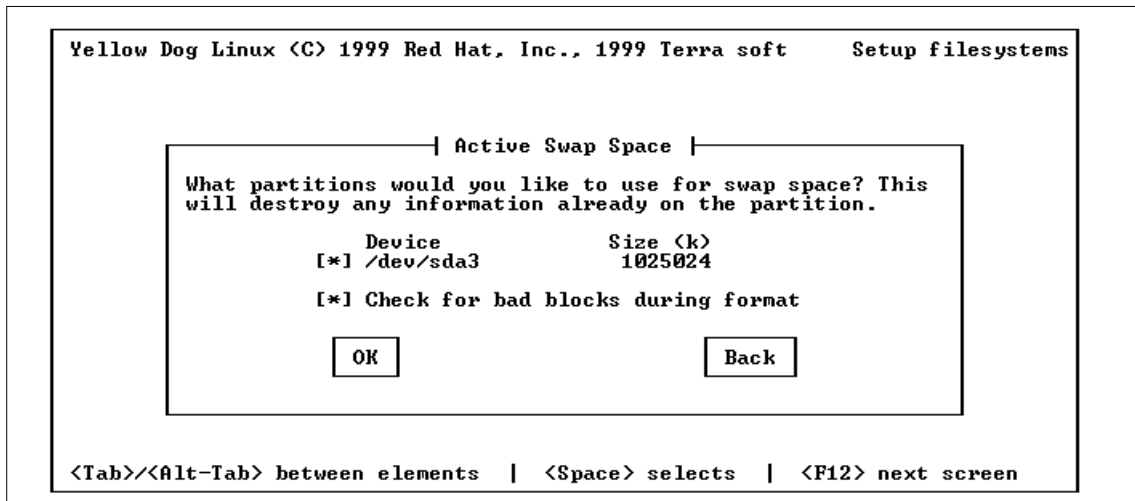

Figure 35. Swap Space Setting
15. When you restart your machine from the install floppy, recheck the partitioning to see that it has the proper settings (see Figure 35).